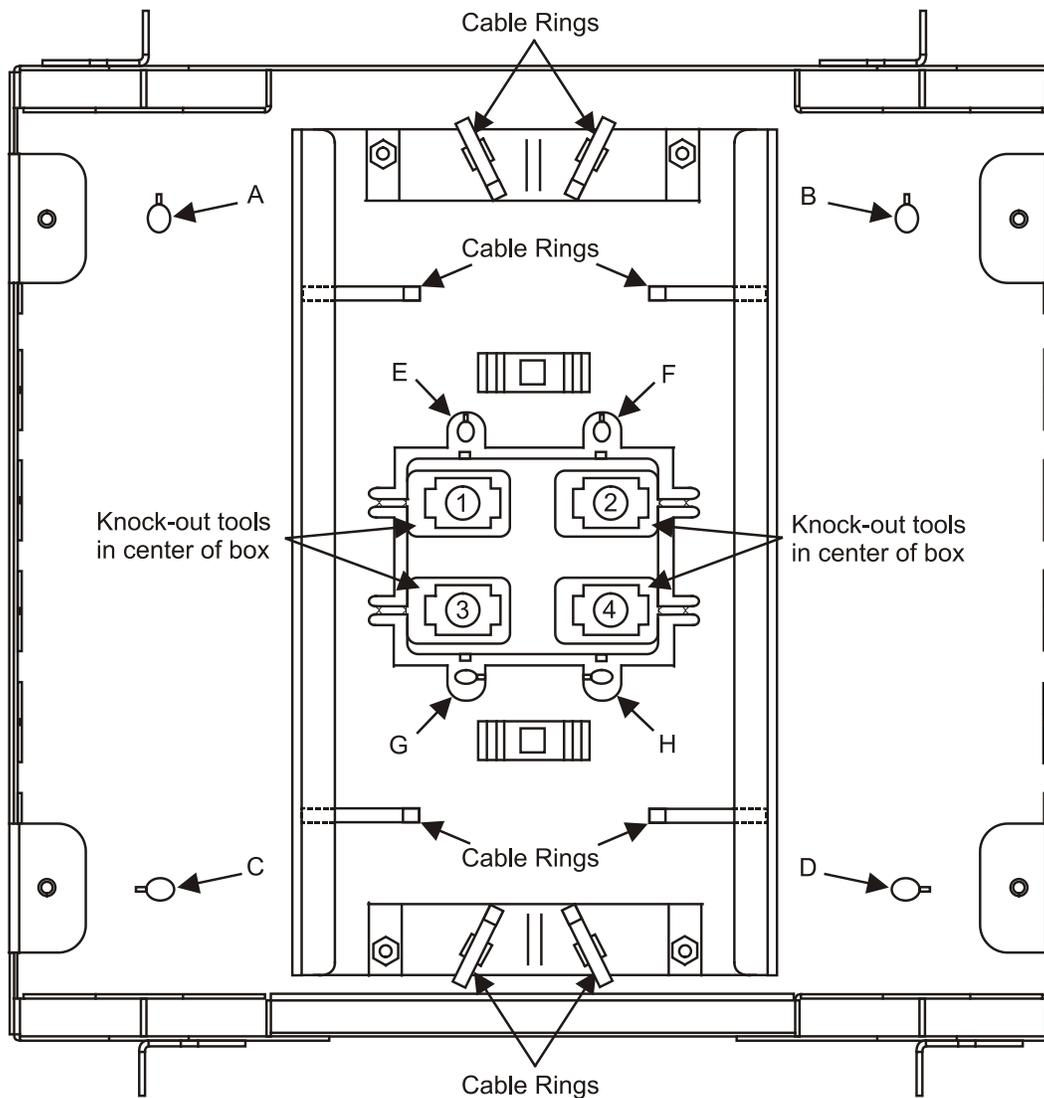

Figure 2 — Mounting Hole Locations
Mount the consolidation point box to a post, wall, floor, or ceiling. Mount it facing out from a wall or post, or in a floor or ceiling installation. For wall or floor mounting, use four No. 8 screws (not supplied) through holes A, B, C, and D (see Figure 2). For wall mounting, use a level to properly level the box before marking locations for the mounting holes.
1. Using a hammer, knock out edge of middle section of center cutout only and remove as shown. Save the four metal tools removed from the center cutout to remove components after they are installed (labeled 1 through 4 in Figure 2).
4. Base requires additional support besides being mounting to an electrical box. While holding base against flat surface, use a pencil or pen to mark four additional mounting points. The four corner mounting holes are recommended (oval shaped openings). Figure 2 shows the four screw holes used to mount the box onto the electrical box (E, F, G, and H).
2. The 3.28 feet (1m) of fiber should be looped around a minimum of four cable rings (10 included) installed at different locations around the box. The plastic cable rings are pushed into appropriate square punched holes located at various positions around the aluminum panel. See Figure 2 for an example.